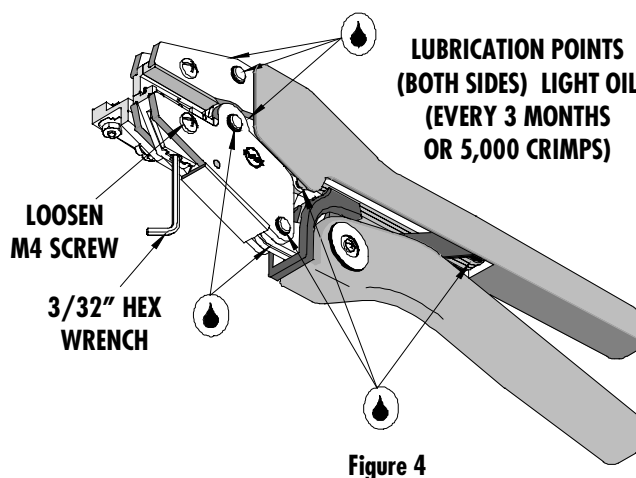

Figure 4
3. Make certain all pins; pivot points and bearing surfaces are protected with a thin coat of high quality machine oil. Do not oil excessively. The 64001-0400 (RHT-1994) was engineered for durability, but like any fine piece of equipment it needs cleaning and lubrication for a maximum service life of trouble-free crimping. A light oil, such as 30 weight automotive oil used at the oil points shown in Figure 4, every 5,000 crimps or 3 months will significantly enhance the tool life and ensure a stable calibration.